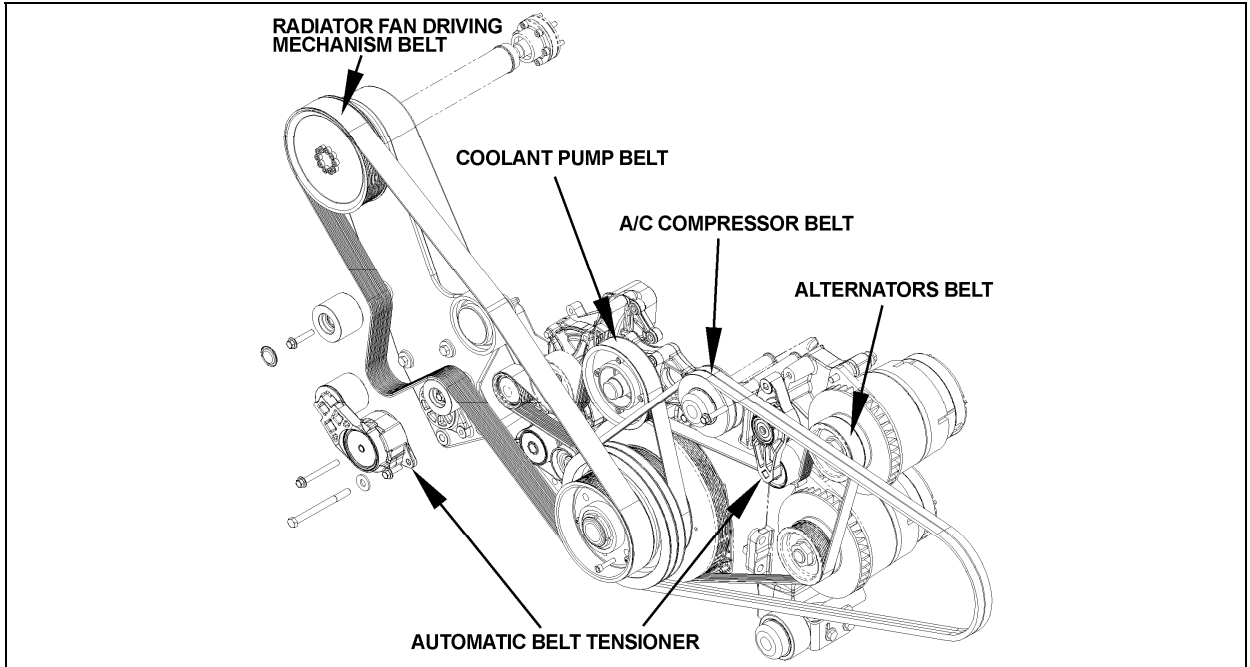

FIGURE 23: TWIN BOSCH ALTERNATORS INSTALLATION (VOLVO D13)
- 4. Install the alternators belt, the coolant pump belt, the A/C compressor belt and then the radiator fan driving mechanism belt (figure 23).